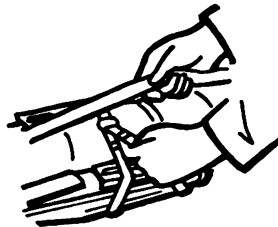

Figure 1.
1. Unsnap the web strap holding the bipod (figure 1).